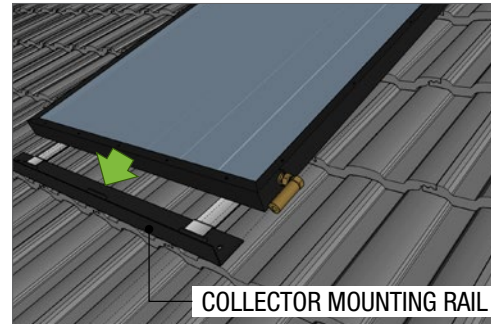

Fig 5
6. Position the collector/s on the collector mounting rail (Fig 5)